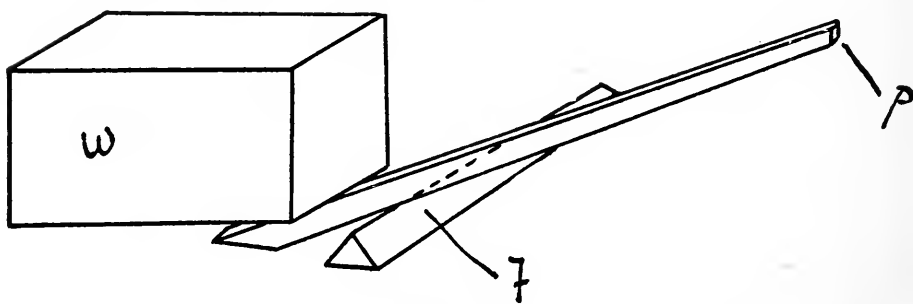

FIG. 64
In the first class the fulcrum (F) is between the power (P) and the weight (W). (Fig. 64.)